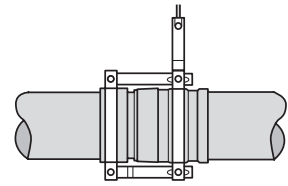

Fig. 15c TML collar and bars in position
**Step 4** – Couple the brackets together with the two slotted restraining bars (which restrict horizontal movement to 25mm). Assemble these so that the slotted ends are above and below the expansion socket (Fig. 15c)